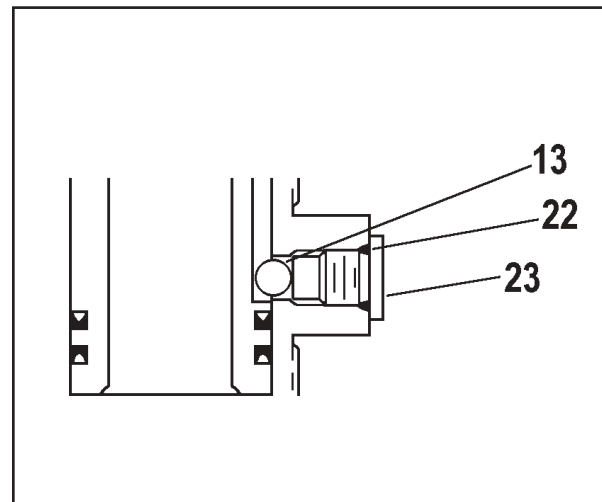

Figure 4
4. Install ball and bearing plug, making sure bearing plug is seated in groove. See Figure 4.